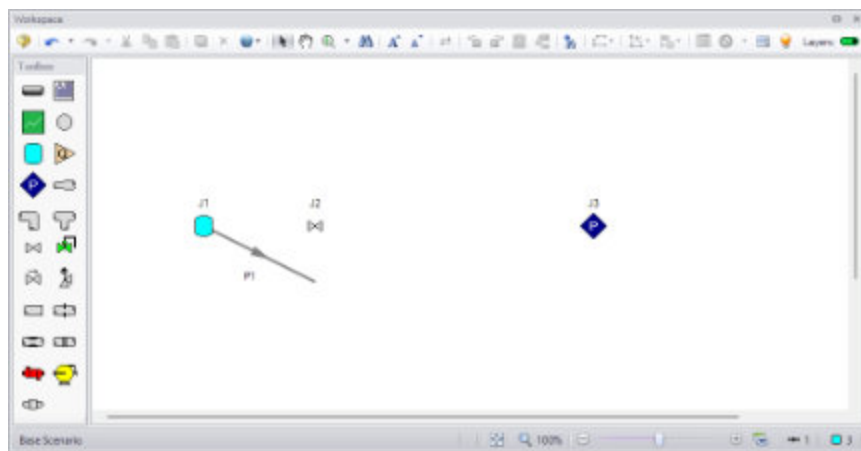
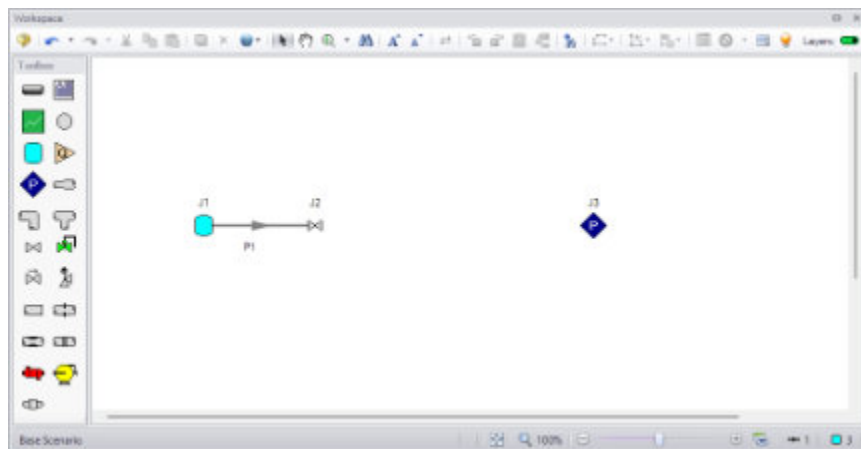

Figure 2.4d First pipe partially connected
Figure 2.4e First pipe fully connected
- **To place the pipe between J1 and J2,** use the mouse to grab the pipe in the center and drag it so that the left endpoint falls within the J1 Tank icon, then drop it there (see Figure 2.4d). Next, grab the right endpoint of the pipe and stretch the pipe, dragging it until the endpoint terminates within the J2 Valve icon (see Figure 2.4e).